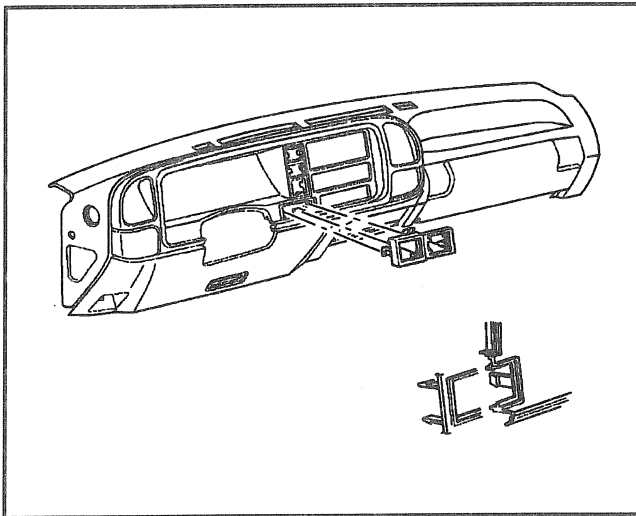

Figure 18—Accessory Lamp Switch Replacement
1. Accessory lamp switch(es) as necessary (Figures 18 and 19).